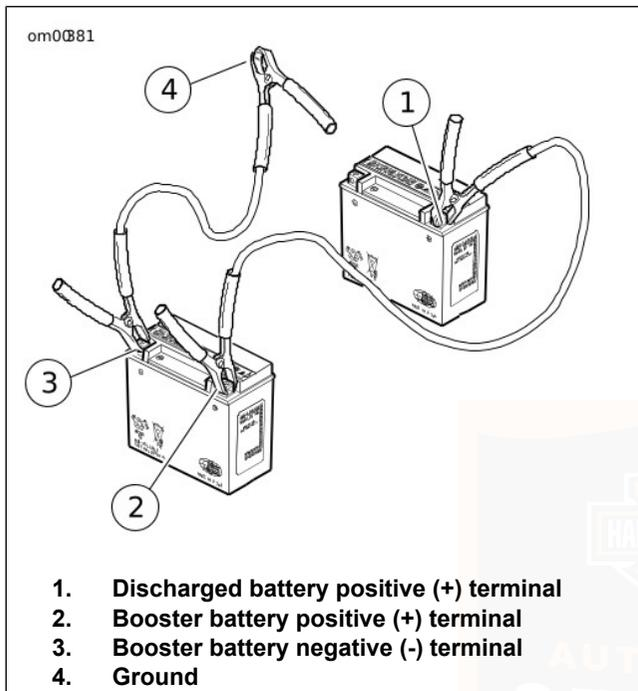

Figure 64. Jump Start Cable Connections
1. See Figure 64. Connect one end of a jumper cable to the DISCHARGED battery positive (+) terminal (1).
2. Connect the other end of the same cable to the BOOSTER battery positive (+) terminal (2).